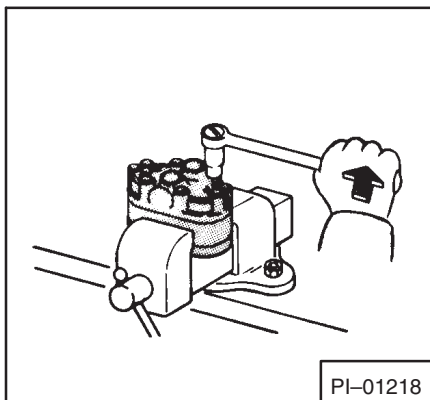

Fig. 78 Disassembly of Hydraulic Pump
3. Clamp the pump in a vise. Remove the bolts that hold the pump plates together (Fig. 78).